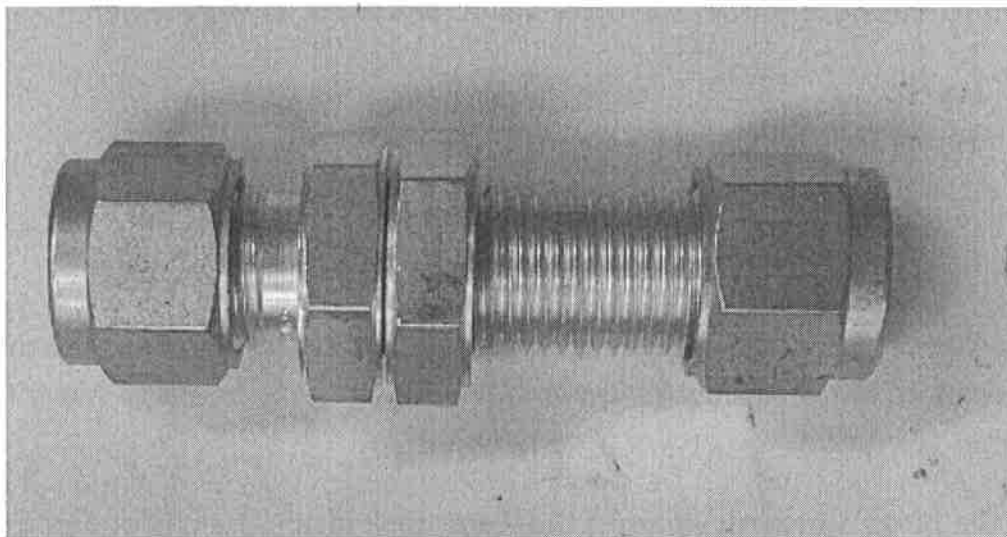

Figure 5
1. Connect the four chambers with the *Blue* *The Unions* pipes using ... connector shown in Figure 5. When you are tightening the connector use key number 17 and tight gently (Don't tight so much, just one turn) *Union*